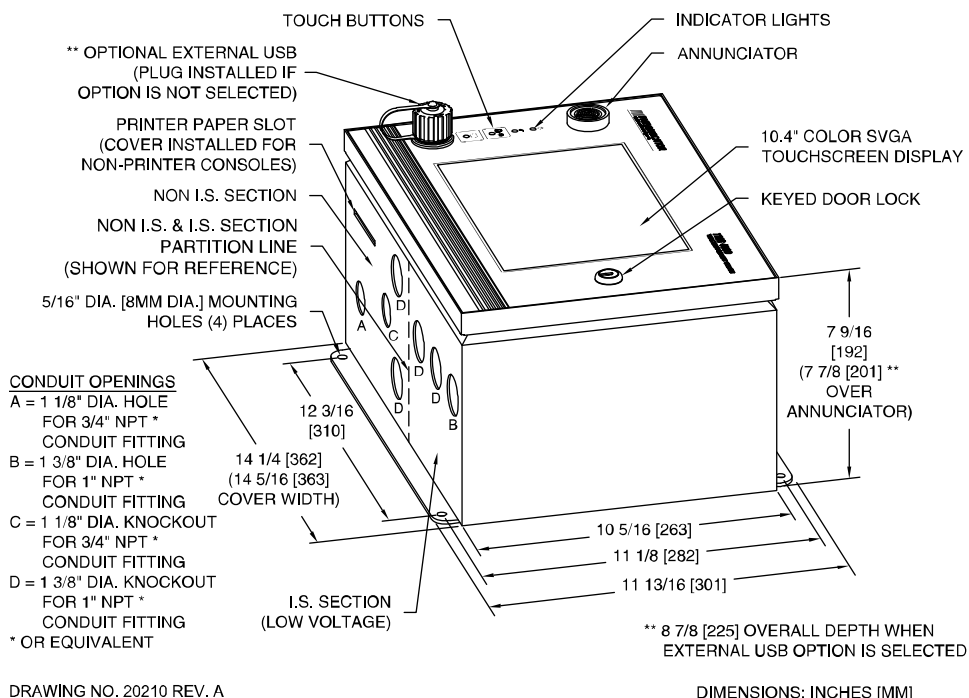

Figure 1-2 - TMS4000 Console Outline
Figure 1-2 illustrates the standard TMS4000 outline and dimensions. All standard configurations are equipped with a 4 Mag. Probe/8 Leak Sensor Card, two (2) RS-232 Serial Port, RS-485 Serial Port, 10/100 Base-T Network Interface, and NEMA 12 enclosure. There are eight (8) basic configurations available:
The standard TMS4000 console enclosure is NEMA 12-rated for indoor installation. An optional NEMA 4X enclosure is available for outdoor installation. Confirm enclosure rating on the approval label located on the exterior, left-hand side of the enclosure before installation outdoors. See Figure 1.2 below for mounting flange locations and dimensions.
Select a flat wall surface and prepare it with four wall-mounting inserts to accept up to 1/4-inch size bolts. Allow sufficient room for door to open and for conduit runs to enter **ONLY THE CONSOLE BOTTOM**. See Figure 1-2 for console dimensions.